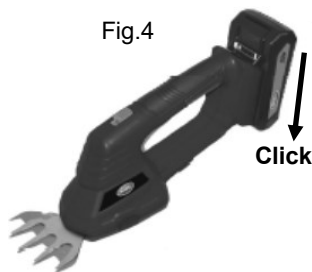

Fig.4
4. Push the battery into the battery mount provided until you hear the catch click into position. (Fig. 4)